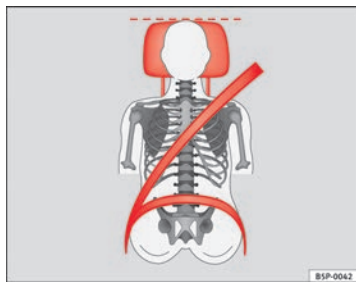
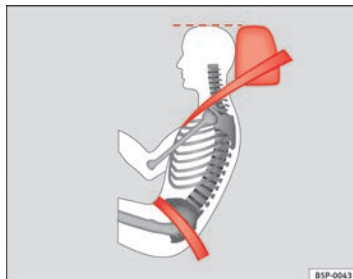

Fig. 92 Front view: head restraints and seat belts correctly adjusted
Fig. 93 Side view: head restraints and seat belts correctly adjusted
- Adjust the head restraint so that the top is at the same level as the top of your head or as close as possible to the same level as the top of your head, at least at eye level ⇒ fig. 92 and ⇒ fig. 93.